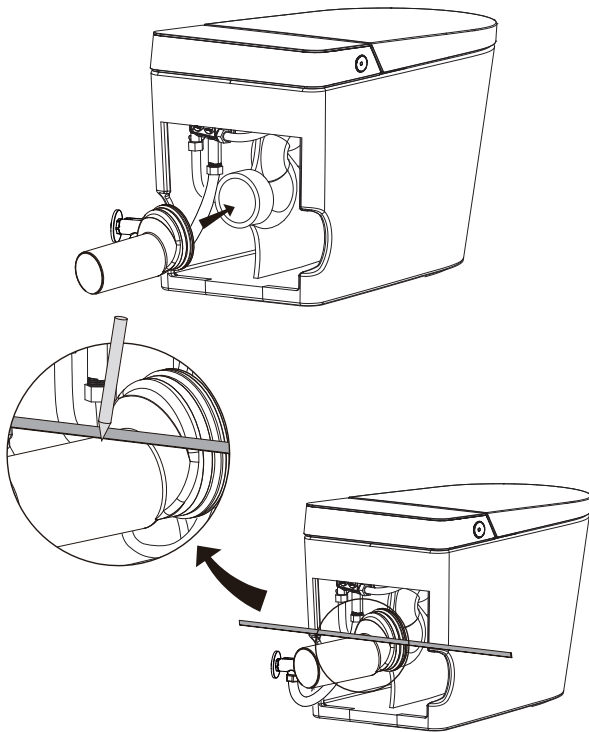

Figure 2
- ☐ Apply silicone oil to the rubber pad on the connecting pipe and insert it into the toilet. (Figure 2)